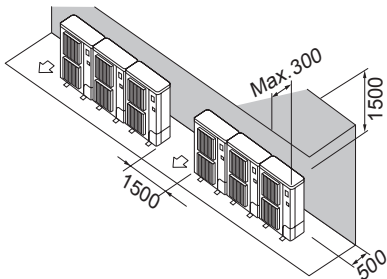

Fig. 4-13
- ② Obstacles at rear and above only (Fig. 4-13)